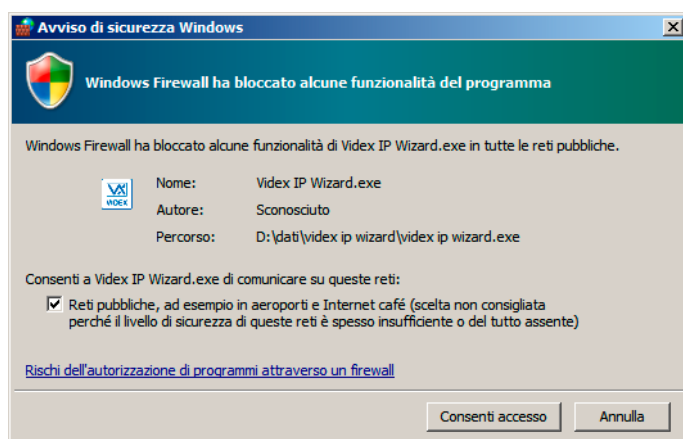

Fig. 56 Windows Firewall Warning
- If you receive the message as shown in (**Fig. 56**) please authorize the VX IP WIZARD to connect to any network, you can safely do this.